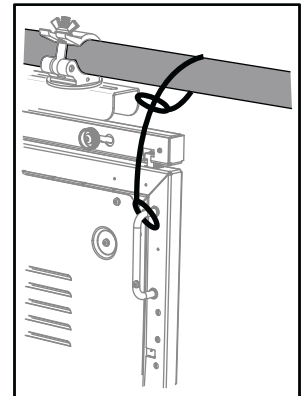

Figure 4: Safety wire attachment
8. See Figure 4. Attach one end of a safety wire around the truss/pipe and the other end through the top handle (14) of the frame.